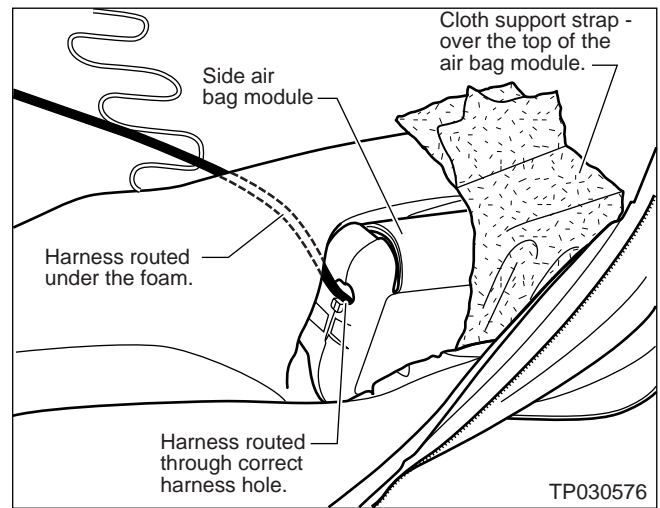

Figure 10
12. Install the new air bag module into the side of the seat (see Figure 10).